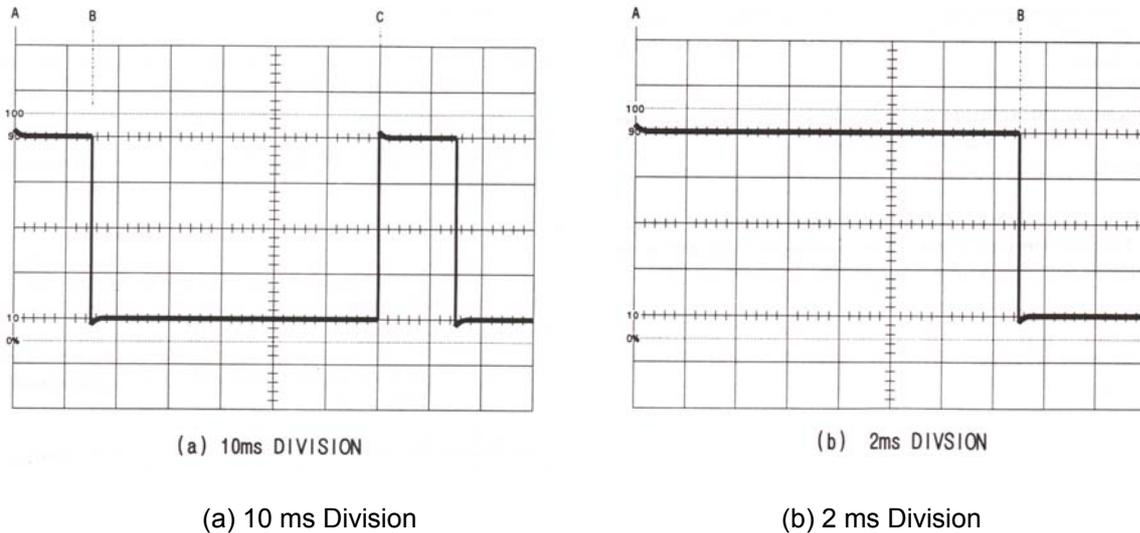

Figure 2-7: Time Interval Measurement
The period of a pulse or any other waveform is the time it takes for one full cycle of the signal. In Figure 2-7, the distance between points (A) and (C) represent one cycle; the time interval of this distance is the period. The time scale for the CRT display of figure 2-7 A is 10 ms/div, so the period is 70 milliseconds in this example.
Pulse width is the distance between points (A) and (B). In our example it is conveniently 1.5 divisions, so the pulse width is 15 milliseconds. However, 1.5 division is a rather small distance for accurate measurements, so it is advisable to use a faster sweep speed for this particular measurement. Increasing the sweep speed to 2 ms/div as in Figure 2-7 gives a large display, allowing more accurate measurement.